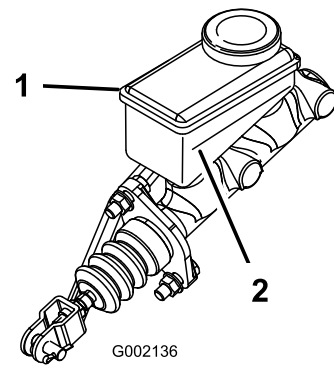

**Figure 57**
2. Raise the hood to gain access to the master-brake cylinder and reservoir (Figure 57).
- A. Clean the area around the reservoir cap and remove the cap (Figure 57).
- C. Install the reservoir cap (Figure 57).